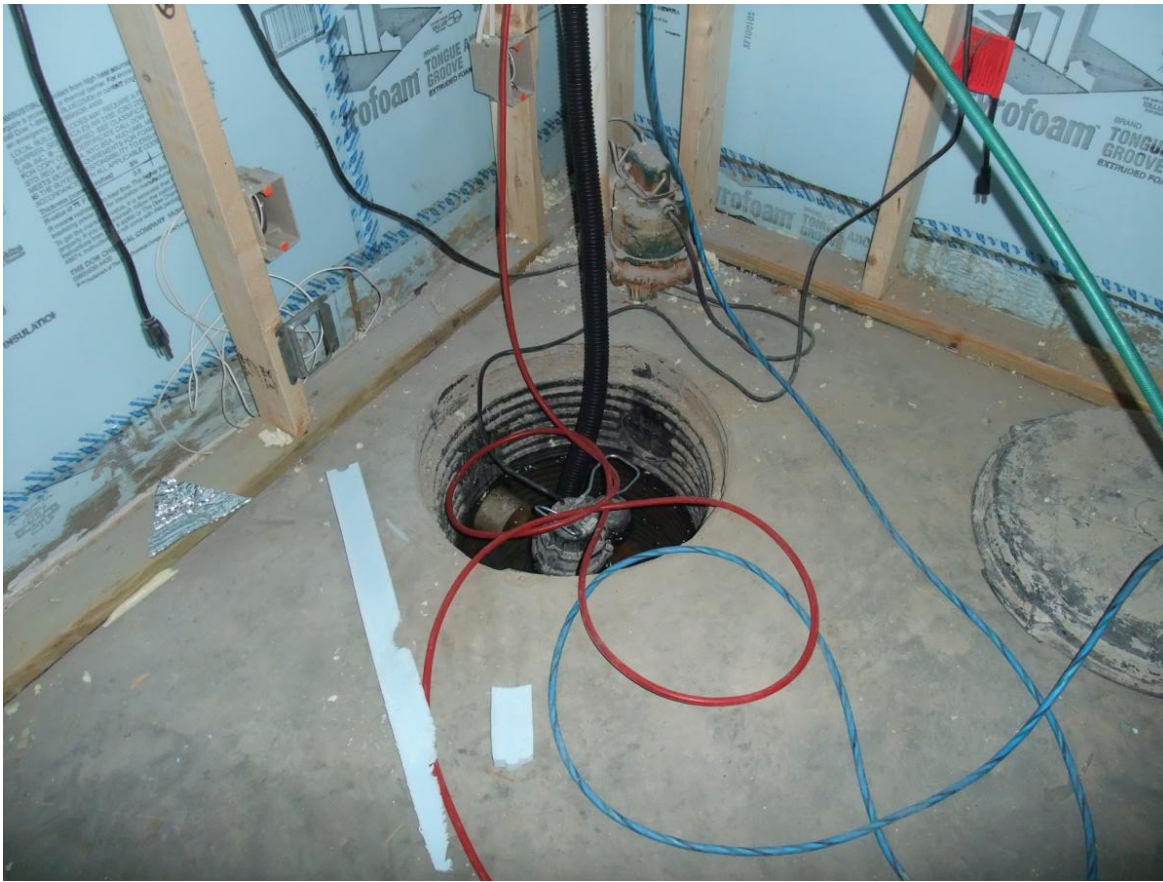

Figure 4. Install the sump pump. (Source: *Building Science Corporation* (<https://basc.pnnl.gov/library/building-science-corporation-bsc>.)
4. Install the discharge pipe to direct water out and away from the building. Install a check valve to prevent discharged water from flowing back into the sump pit when the sump pump turns off. Place the pump in the sump pit and plug it in (Figure 4). Make sure the float is unobstructed. The outlet may need to be a GFCI (ground fault circuit interrupter) safety outlet - refer to the [List of NFPA Codes & Standards \(https://basc.pnnl.gov/library/list-nfpa-codes-standards\)](https://basc.pnnl.gov/library/list-nfpa-codes-standards).